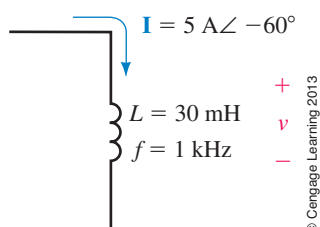

FIGURE 18-82
7. For the component shown in Figure 18-82: